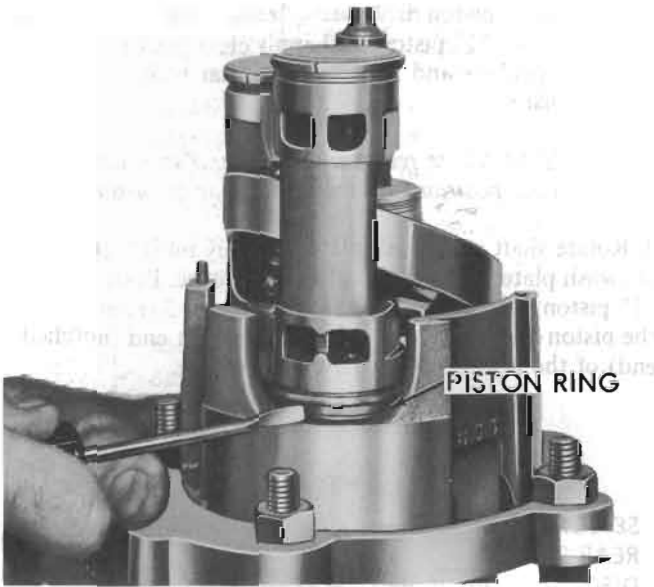

Figure 13-58 Compressing Front Piston Rings
**NOTE:** *In order to fit the piston onto the swash plate and into the cylinder bore, the swash plate must be raised approximately 1/2 inch, the front needle thrust bearing and races must be held up against the hub of the swash plate, and the piston rings must be squeezed together (see Figure 13-58). Lubricate cylinder bore, piston assembly and swash plate with No. 525 viscosity oil to facilitate reassembly.*